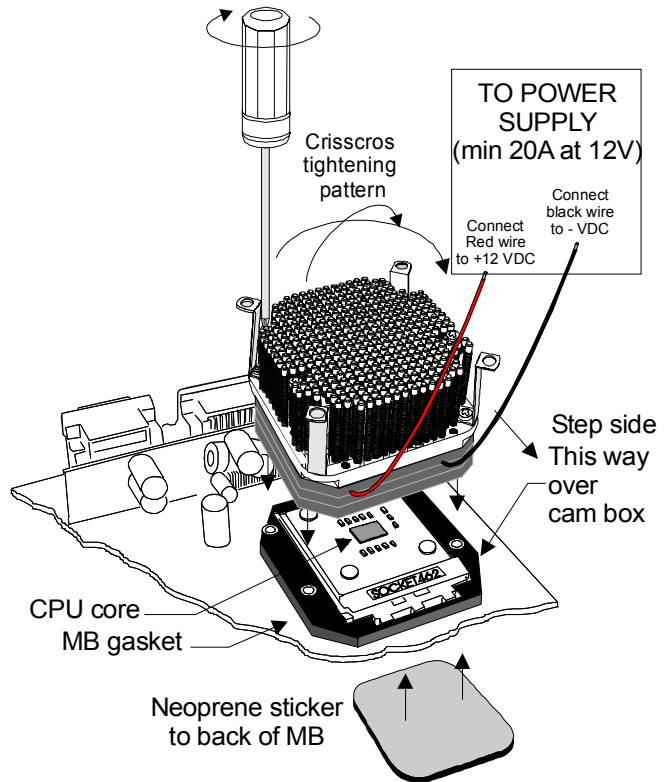

Figure 2
- Remove the peel-off paper back of the motherboard gasket, and install it as shown Fig. 2, sticky side towards the motherboard.
- Apply the provided neoprene sticker to the back of the motherboard as shown in Fig. 2
1. The case should be laying flat on a table. Install the MCX462+T™ heatsink onto the CPU as shown in fig. 2, heatsink step side over the socket's cam box. Tighten the mounting screws in a crisscross pattern. **Important note: Due to wide variations in gasket thickness tolerances, we suggest that you uninstall the heatsink once following the initial assembly, just to verify that you have good contact between cold plate and CPU. Inspect the grease imprint that the CPU left on the copper plate: it should be perfectly even!**